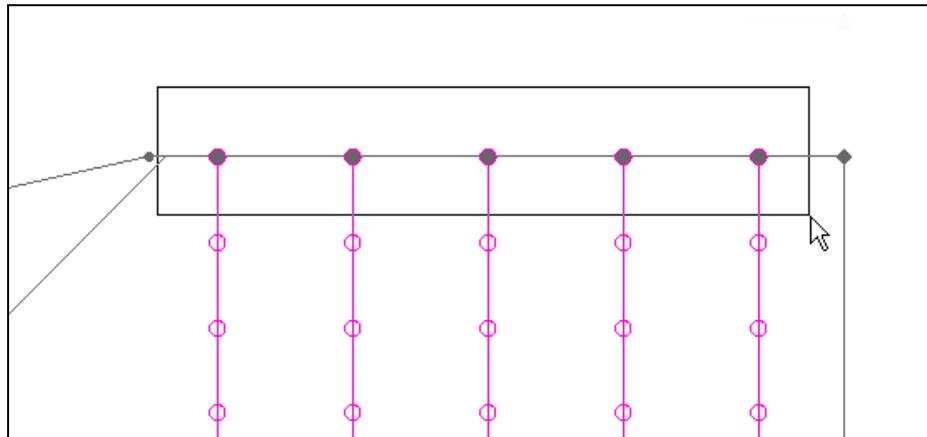

Figure 8. Selecting the Top Reinforcement Nodes by Dragging a Box.
2. Select all the top nodes by dragging a box around them as shown in Figure 8 below.